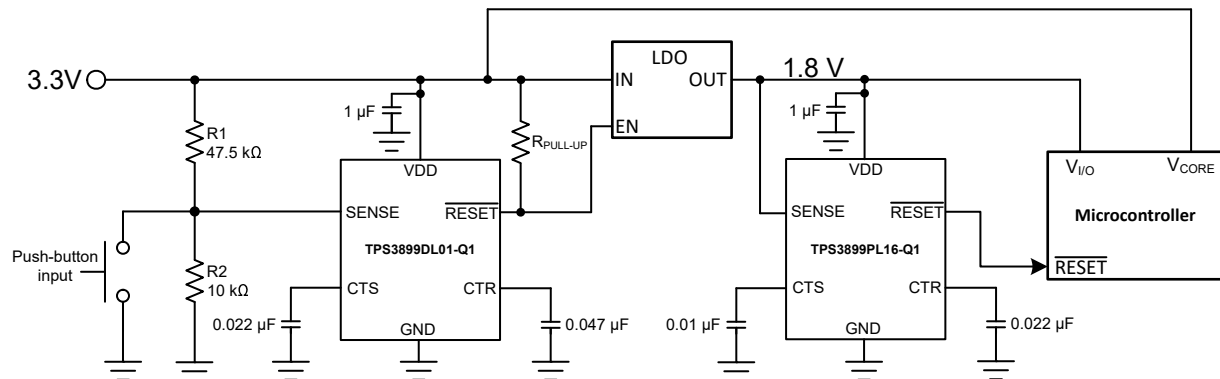

Figure 8-1. TPS3899-Q1 Voltage Rail Monitor and Power-Up Sequencer Design Block Diagram
A typical application for the TPS3899-Q1 is voltage rail monitoring and power-up sequencing as shown in Figure 8-1. The TPS3899-Q1 can be used to monitor any rail above 0.8V. In this design application, two TPS3899-Q1 devices monitor two separate voltage rails and sequences the rails upon power-up. The TPS3899DL01-Q1 is used to monitor the 3.3V main power rail and the TPS3899PL16-Q1 is used to monitor the 1.8V rail provided by the LDO for other system peripherals. The RESET output of the TPS3899DL01-Q1 is connected to the enable (EN) input of the LDO with an external pull-up resistor $R_{PULL-UP}$ to the 3.3V power rail. The RESET output of the TPS3899PL16-Q1 is connected to the (RESET) input of the microcontroller. A reset event is initiated on either voltage supervisor when the VDD voltage is less than V_{IT} , falling threshold voltage. For a system reset event, a push-button input is placed at the SENSE pin of the TPS3899DL01-Q1.